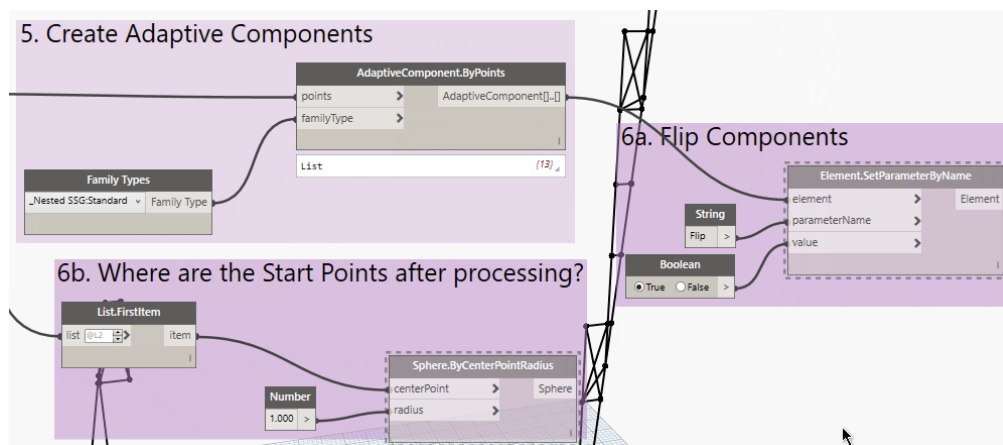

Figure 51
**AdaptiveComponent.ByPoints** and **Family Types**. Family Types gives a drop-down list containing all of the loaded family types in the current project. Choose the one you want to add. As noted previously, I have two versions of my panel family. The one called: *\_Nested SSG:Standard* will work much better. It is a simple adaptive component family with four placement points and its category changed to Curtain Panels. And most important, the other version of the SSG panel, the fully parametric one, is simply nested in here. Feed the list of corrected points and the selected family type into the **AdaptiveComponent.ByPoints** node and run the graph (see Figure 51).